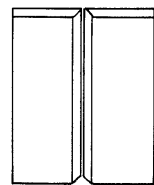

Figure 2.1
2. Position the metal so that the joint to be welded is in the vertical position. (See Figure 2.1.)